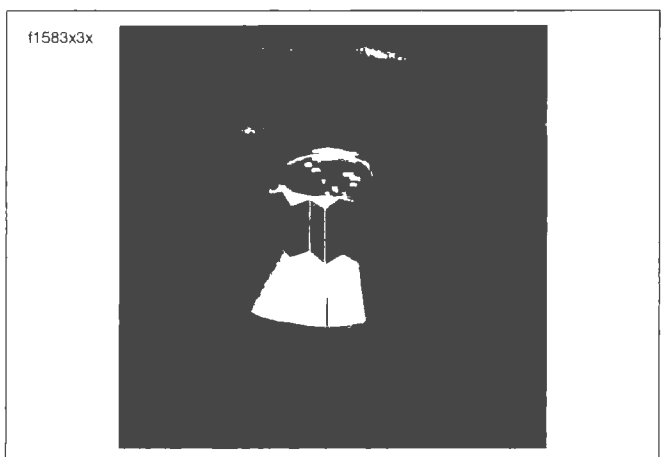

Figure 3-39. Final Tightening For Cylinder Head Bolts
- d. See Figure 3-39. Using a grease pencil, mark a straight line on the cylinder head bolt continuing the line over onto the cylinder head.